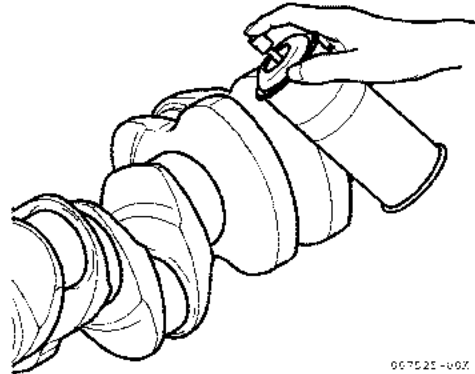

Figure 5-106
- Perform a dye penetrant inspection after cleaning the crankshaft, and replace the crankshaft if there are any cracks or other significant damage (Figure 5-106).